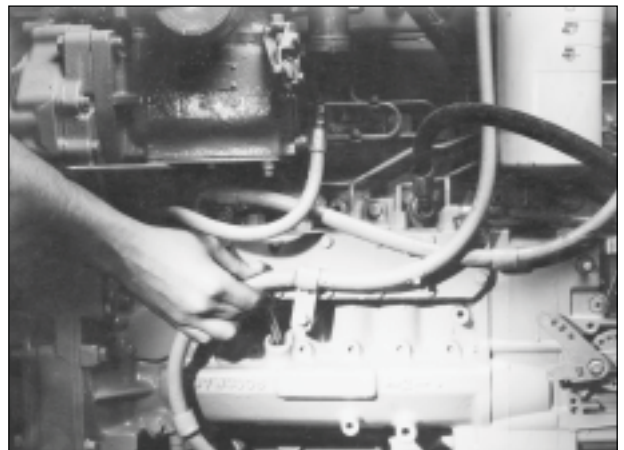

Figure 2-8
1. Remove the plug from the fuel injection pump as shown in Figure 2-8